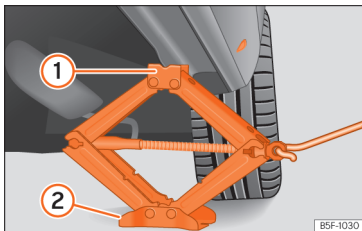

Fig. 39 Cross member: positioning the jack on the vehicle.
- Turn the jack* crank handle, located below the strut support point, to raise it until the tab ① » » Fig. 39 is below the housing provided.
- Align the jack* so that tab ① “grips” onto the housing provided on the strut and the mobile base ② is resting on the ground. The base plate ② should fall vertically with respect to the support point ①.